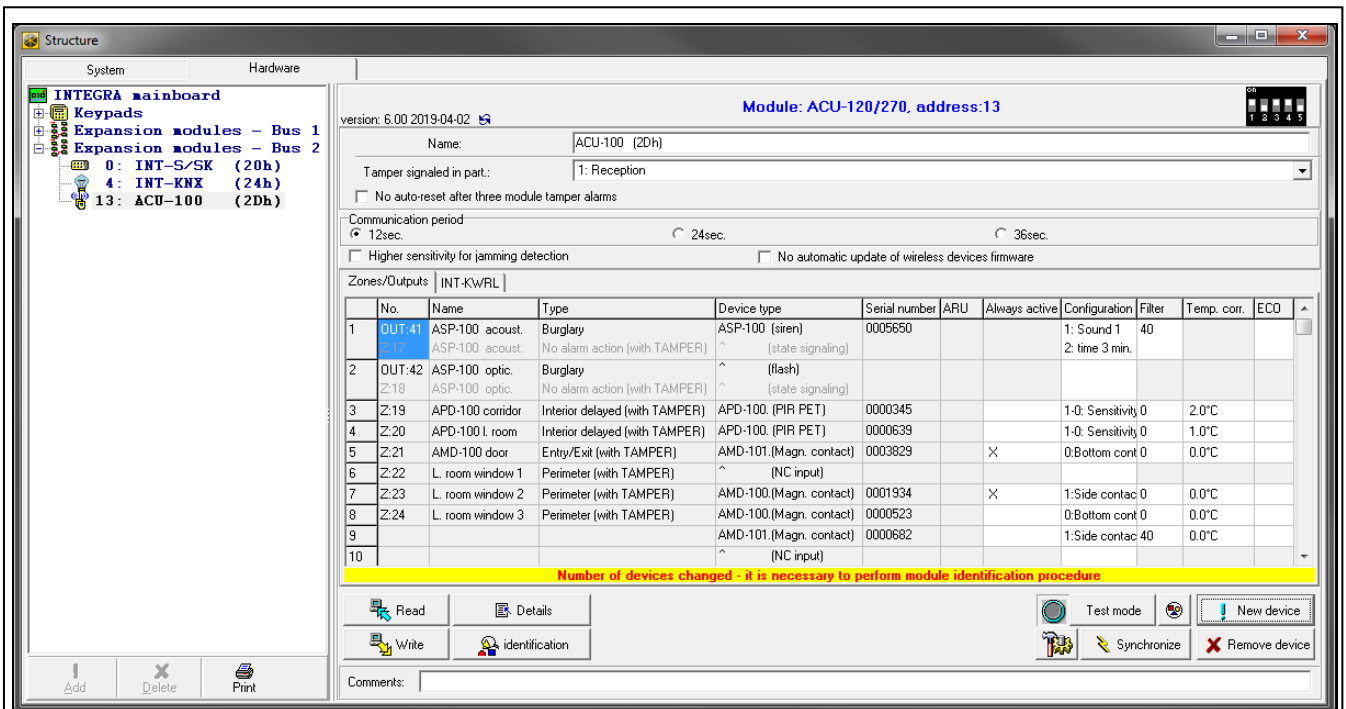

Fig. 21. DLOADX program: information displayed after registration of a new device to the controller connected to the INTEGRA / INTEGRA Plus control panel.
10. Click on the “identification” button (see Fig. 21). The new wireless zones / outputs will not be available in the alarm system until the procedure of expander identification is finished.